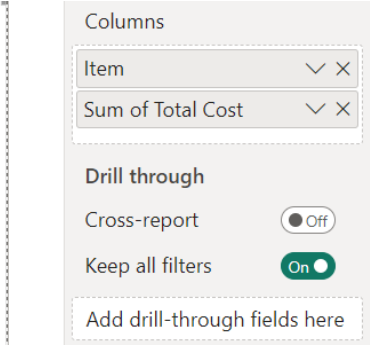

Figure 2.10: Simple table visual.
3. Create a **Table** visual by placing the **Item** and **Total Cost** columns from the table called **Table** in the visual. The resulting visual is displayed in *Figure 2.10*: